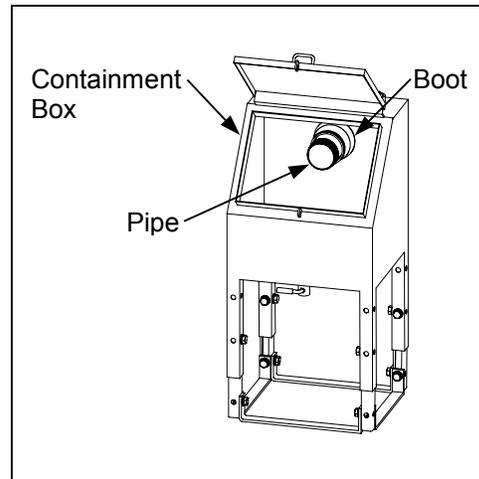

Figure 4
- Place the spill container in the desired location and, to assure a tight fit to the pipe, tighten the stainless steel clamp on the nitrile boot. (See Figure 4.)